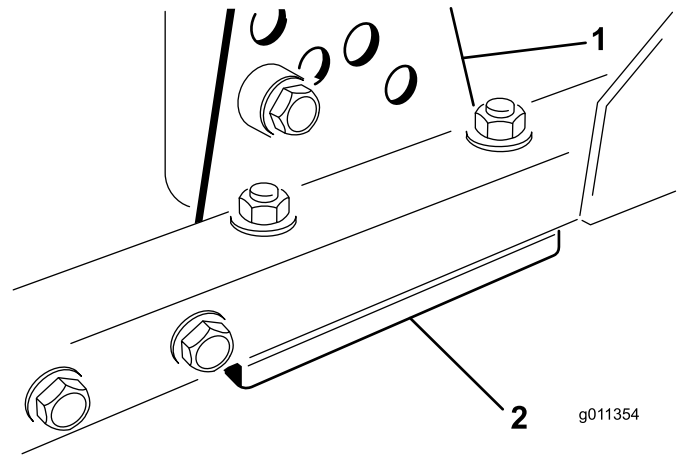

Figure 90
1. Remove the height-of-cut bracket, (front, left, or right) from the cutting-unit frame (Figure 90).
2. Insert 1.5 mm (0.060 inch) shims and/or 0.7 mm (0.030 inch) shims between the cutting-unit frame and bracket to achieve the desired height setting (Figure 90).